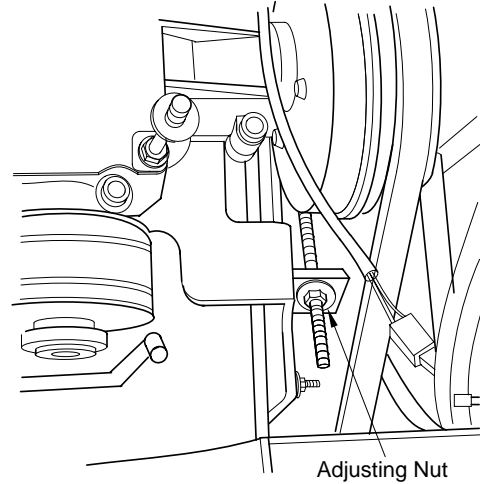

**Figure 6-9 Engine Belt Adjustment**
2. Adjust belt tension by turning the adjusting nut (Figure 6-9) to obtain a 1/2 inch belt deflection with 10 pounds of pressure. See Drive Belts, section 7.8 for checking method.